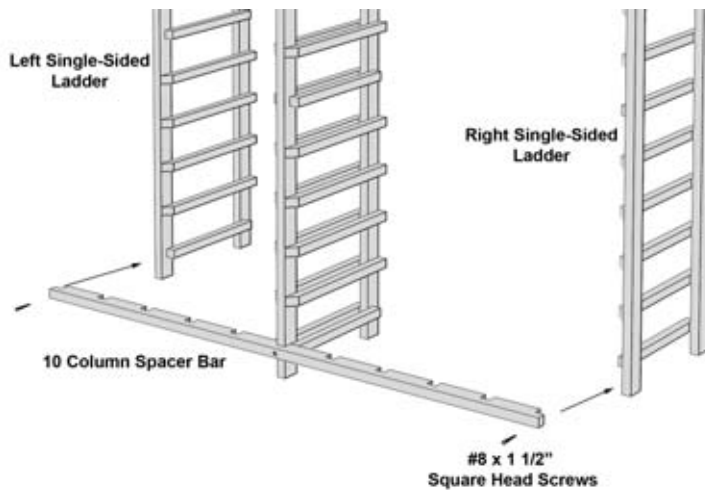

Figure 2
5. Repeat step 4 until all (9) double-sided ladders are in place.
6. Set the two single-sided ladders into the open end rabbet (or slot) locations (**Figure 2**). Make sure that the slat sides of the ladders face inward toward the other ladders. Align the spacer bar at the spacer slat location. **Pre-drill through the existing screw holes on your spacer bar and into the ladder uprights. Secure both ladders with screws as before.